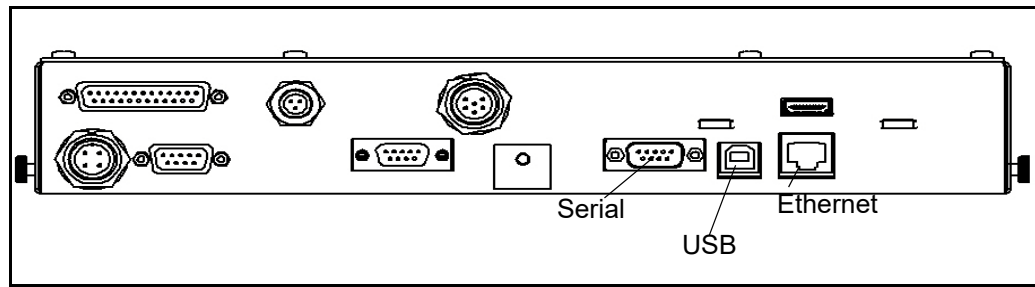

Figure 13
2. Connect the Ethernet cable (supplied) to the CubiScan 325’s Ethernet port, as shown in Figure 13.
1. Connect the USB cable to the CubiScan 325's USB port located on the controller box, as shown in Figure 13.
2. Connect the serial cable to the CubiScan 325’s serial port, as shown in Figure 13.